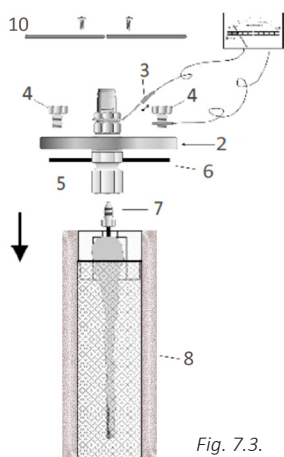

Fig. 7.3.
8.5. Replacing the wear indicator and the control button (Fig. 7.3.)